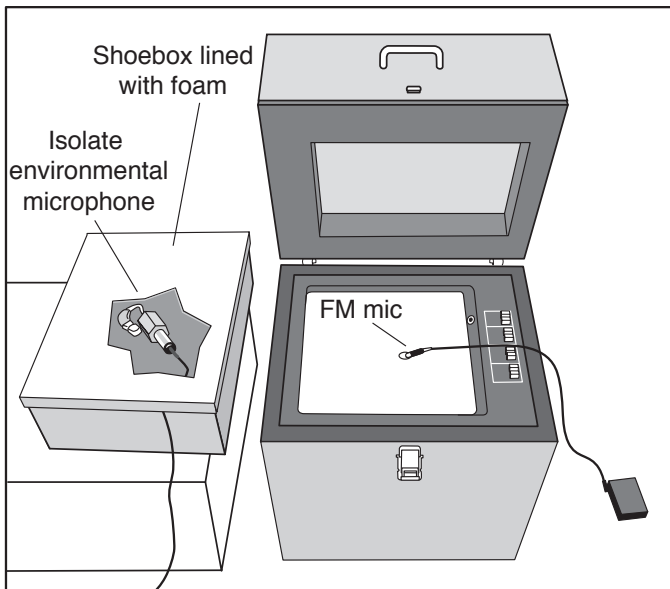

Figure 3: FM microphone set up
16. Switch the positions of the hearing aid and the FM microphone. That is, place the FM microphone at the reference point of the sound chamber and place the hearing aid outside the sound chamber while it is still attached to the coupler and analyzer microphone. Close and latch the lid of the sound chamber. See Figure 3.
8. Switch the positions of the hearing aid and the FM microphone; place the FM microphone at the reference point inside the sound chamber and place the hearing aid outside the sound chamber. Close and latch the sound chamber lid. See Figure 3.